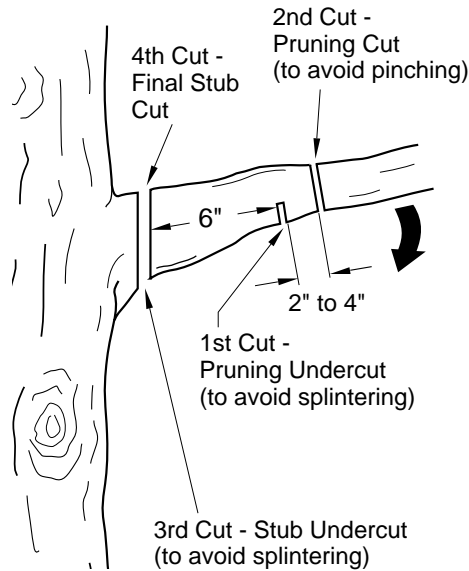

Figure 11 - Cutting A Limb
1. Make first cut six inches from tree trunk on underside of limb. Use top of guide bar to make this cut. (Cut 1/3 through diameter of limb, see figure 11).